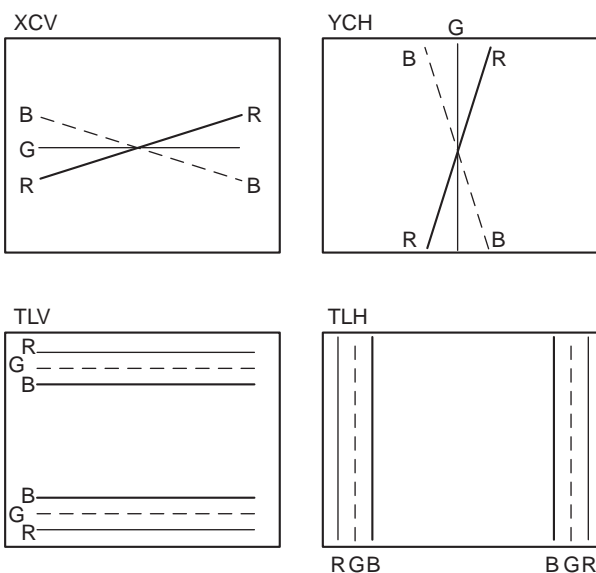

Fig. 1-15
1. Minimize the vertical misconvergence in the left-most end of the center of a screen and in the right-most end of the center of a screen by adjusting the DY correction reactor XCV as shown in Fig. 1-15.
2. Minimize the vertical misconvergence in the top of a screen and in the bottom of a screen by adjusting the DY correction reactor YCH as shown in Fig. 1-15.
3. Minimize the vertical misconvergence in the top of a screen and in the bottom of a screen by adjusting the DY correction reactor TLV as shown in Fig. 1-15.
4. Minimize the vertical misconvergence in the left-most end of the center of a screen and in the right-most end of the center of a screen by adjusting the DY correction reactor TLH as shown in Fig. 1-15.